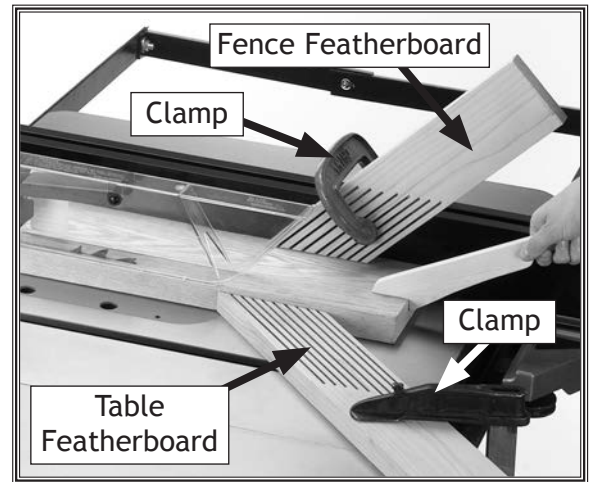

Figure 76. Example of featherboards secured with clamps.
3. Place a featherboard on the table away from the blade so all fingers point forward and contact the workpiece (see **Figure 76**).
6. Mount a second featherboard to the fence with another clamp (see **Figure 76**), then repeat **Step 5** to ensure it is secure.